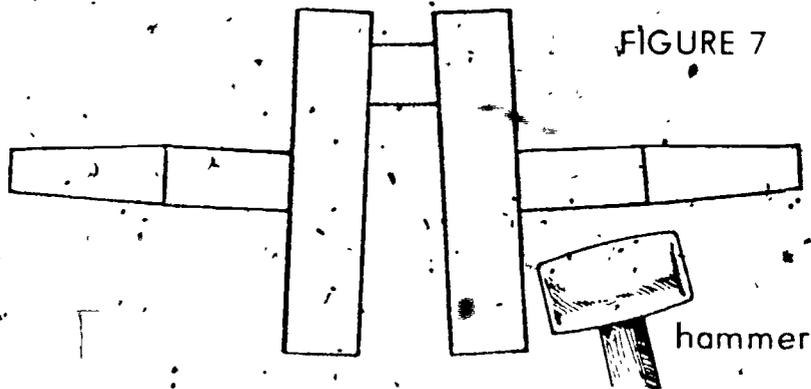

FIGURE 7
- 2) Tap wheels opposite crankpin toward each other (Figure 7)